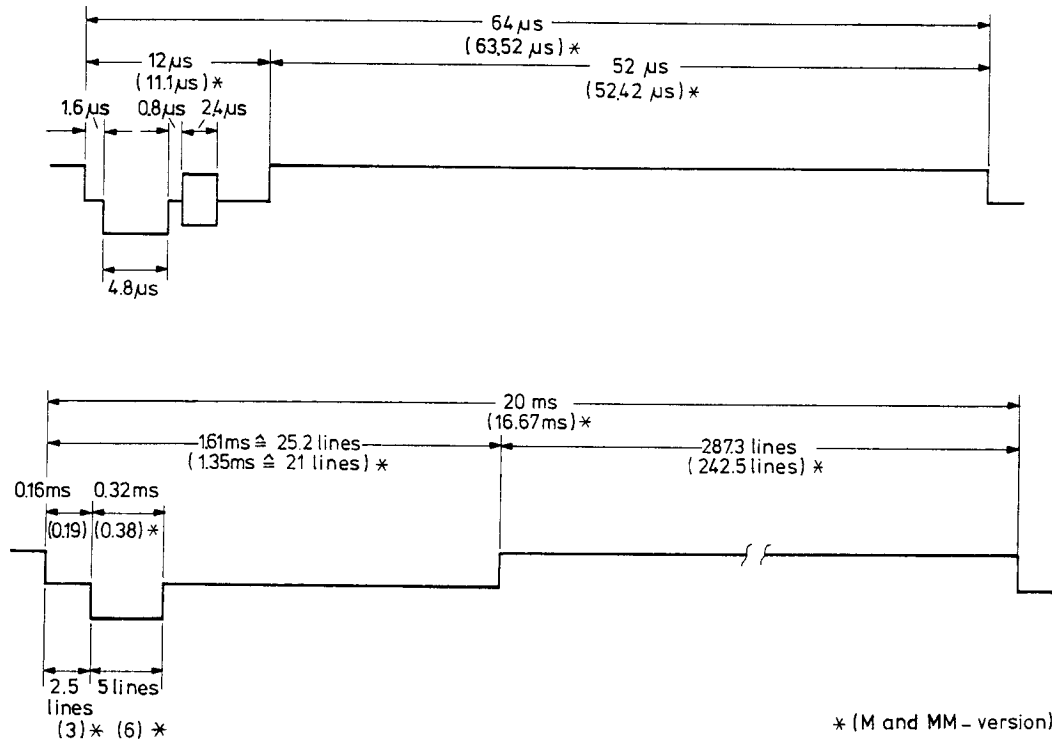

Fig. 4 Field and line raster signals
t_H is line time $\hat{=}$ 64 (or 63.56) μ s $\hat{=}$ H , see fig. 4
2.2.1. Raster signals, fig. 4.